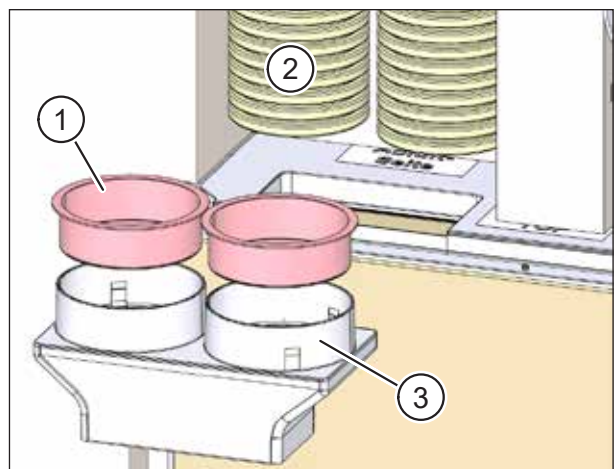

Fig. 57: Cutting flexible pipes to length
- ▶ Remove the red protective cover (item 1 in Fig. 57) from the flexible pipe connection (item 3 in Fig. 57).
- ▶ Shorten the flexible pipes (item 2 in Fig. 57) so that the flexible pipe connection (item 3 in Fig. 57) with the flexible pipes inserted can be pushed into the opening on the wall box.